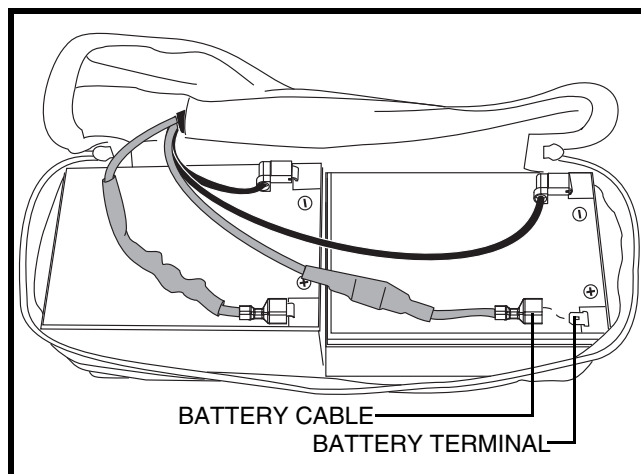

Figure 15. Battery Replacement
3. Unzip the battery pack to expose the batteries. See figure 15.
4. Disconnect the black (-) and red (+) battery cables from the battery terminals of each battery. See figure 15.